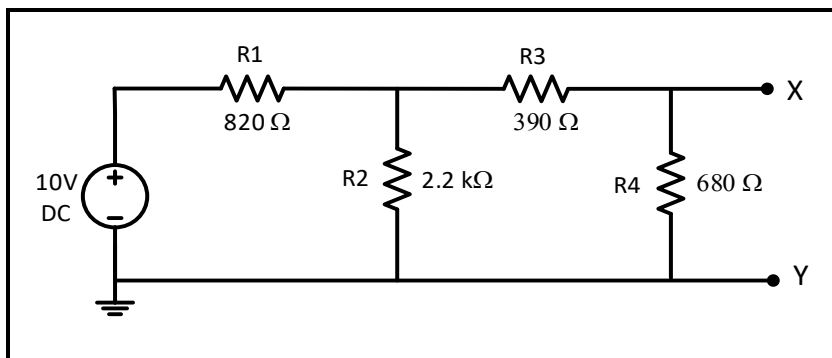
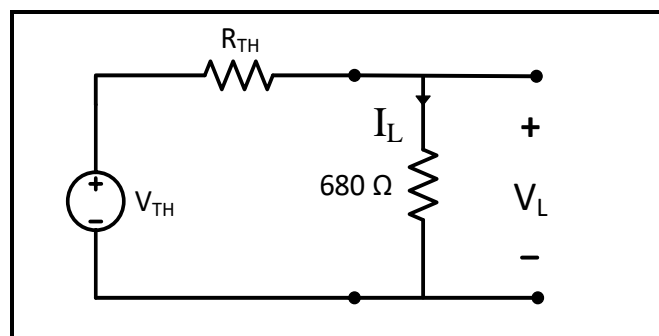

Figure 4.5
Figure 4.7
1. Find and draw the Thevenin equivalent with respect to the terminals X, Y for the circuit in Figure 4.5 (**Show calculation of $V_{Thevenin}$ and $R_{Thevenin}$**).
2. Simulate the circuit of Figure 4.5 using PSPICE to determine the value of voltage around and current through the 680 Ω resistor.
3. Simulate Thevenin equivalent circuit that you found in step 1 shown in Figure 4.7 using PSPICE to determine the value of voltage around and current through the 680 Ω resistor.
1. Connect the circuit of Figure 4.5 and set the power supply voltage to 10V.
9. Based on your calculation of $V_{Thevenin}$ and $R_{Thevenin}$ in your pre lab, connect Thevenin's equivalent circuit for the circuit of Figure 4.5 as shown in figure 4.7 (use decade box for $R_{Thevenin}$), measure the voltage across and the current through the 680 Ω resistor, record results in Table 4.7.
Question 3: Compare the measured values of load voltage and current in Thevenin's circuit and in the original circuit in figure 4.5. Compare the value of R_{Th} in the three methods of measurement.